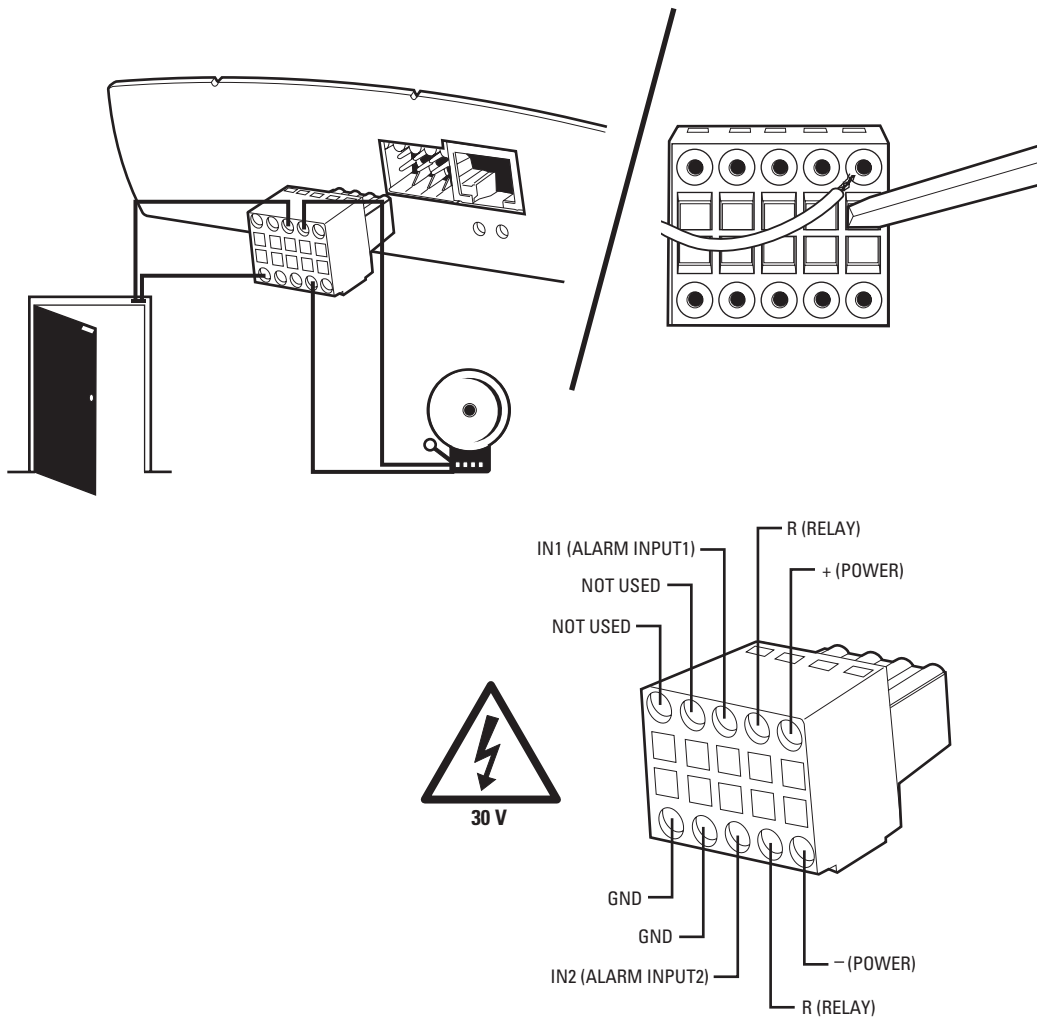

Figure 17. Alarm and Relay Connections
Do the following to connect an external sensor. Refer to Figure 17.
Refer to Figure 17. On the plug-in terminal block, attach a wire conductor to each of the relay terminals (R). (Insert a small screwdriver tip in the square hole and push hard enough to open the corresponding round hole. Insert the wire in the round hole.) It does not matter which conductor wire goes to which relay terminal. The device the relay activates will need its own power supply.
2. Refer to Figure 17. Push the orange terminal block into the plug-in base next to the Ethernet port on the NET300. The wires on the plug correspond to the + and – labeling on the NET300.